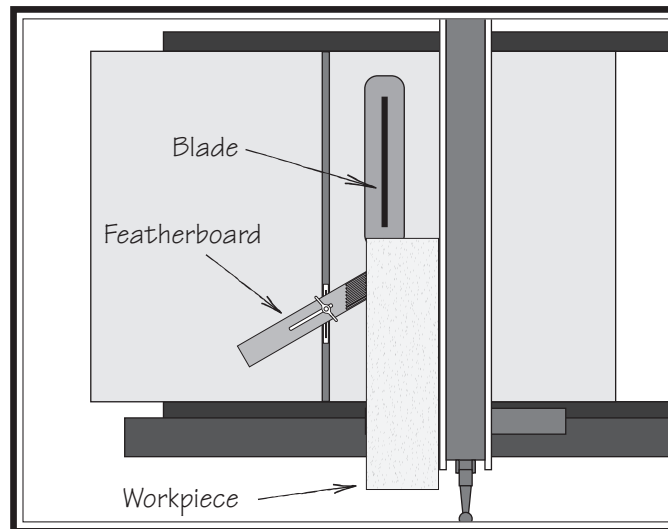

Figure 88. Featherboard installed in miter slot and supporting workpiece for ripping cut.
3. Slide featherboard miter bar into miter slot, making sure fingers slant toward blade, as shown in **Figure 88**.